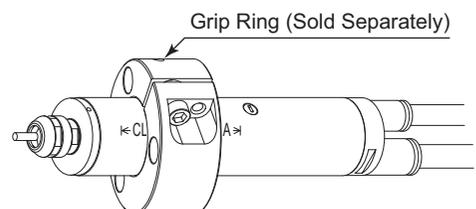

Fig. 10
- * When installing an Air Motor Spindle, use a " Grip Ring GR-30 (sold separately) "(Fig. 10) recommended. If the Grip Ring GR-30 (sold separately) cannot be used due to the restriction of dimension and space, install as shown in ② below.